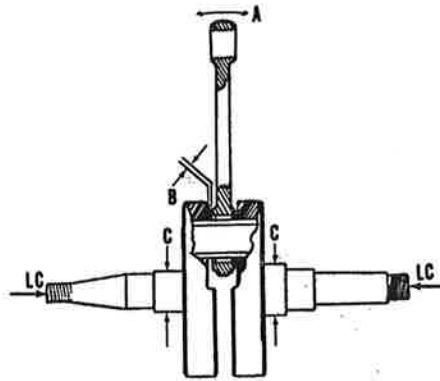

Fig. Y19-19—Crankshaft should be supported between lathe centers (LC) when making runout checks.
tion for engine disassembly procedure. Crankshaft runout, measured on main bearing surfaces (C—Fig. Y19-19), should be no more than 0.025 mm (0.0012 in.). Small end shank runout should be no more than 2.0mm (0.078 in.). Side clearance (B) between large end of connecting rod and crank wheel should be 0.4-0.5mm (0.016-0.019 in.). Width of crankshaft, measured on flywheel outer faces, should be 64mm (2.52 in.) for "MX" models, "SC" models, DT250A and DT360A. Width of crankshaft for all other models is 62mm (2.44 in.).